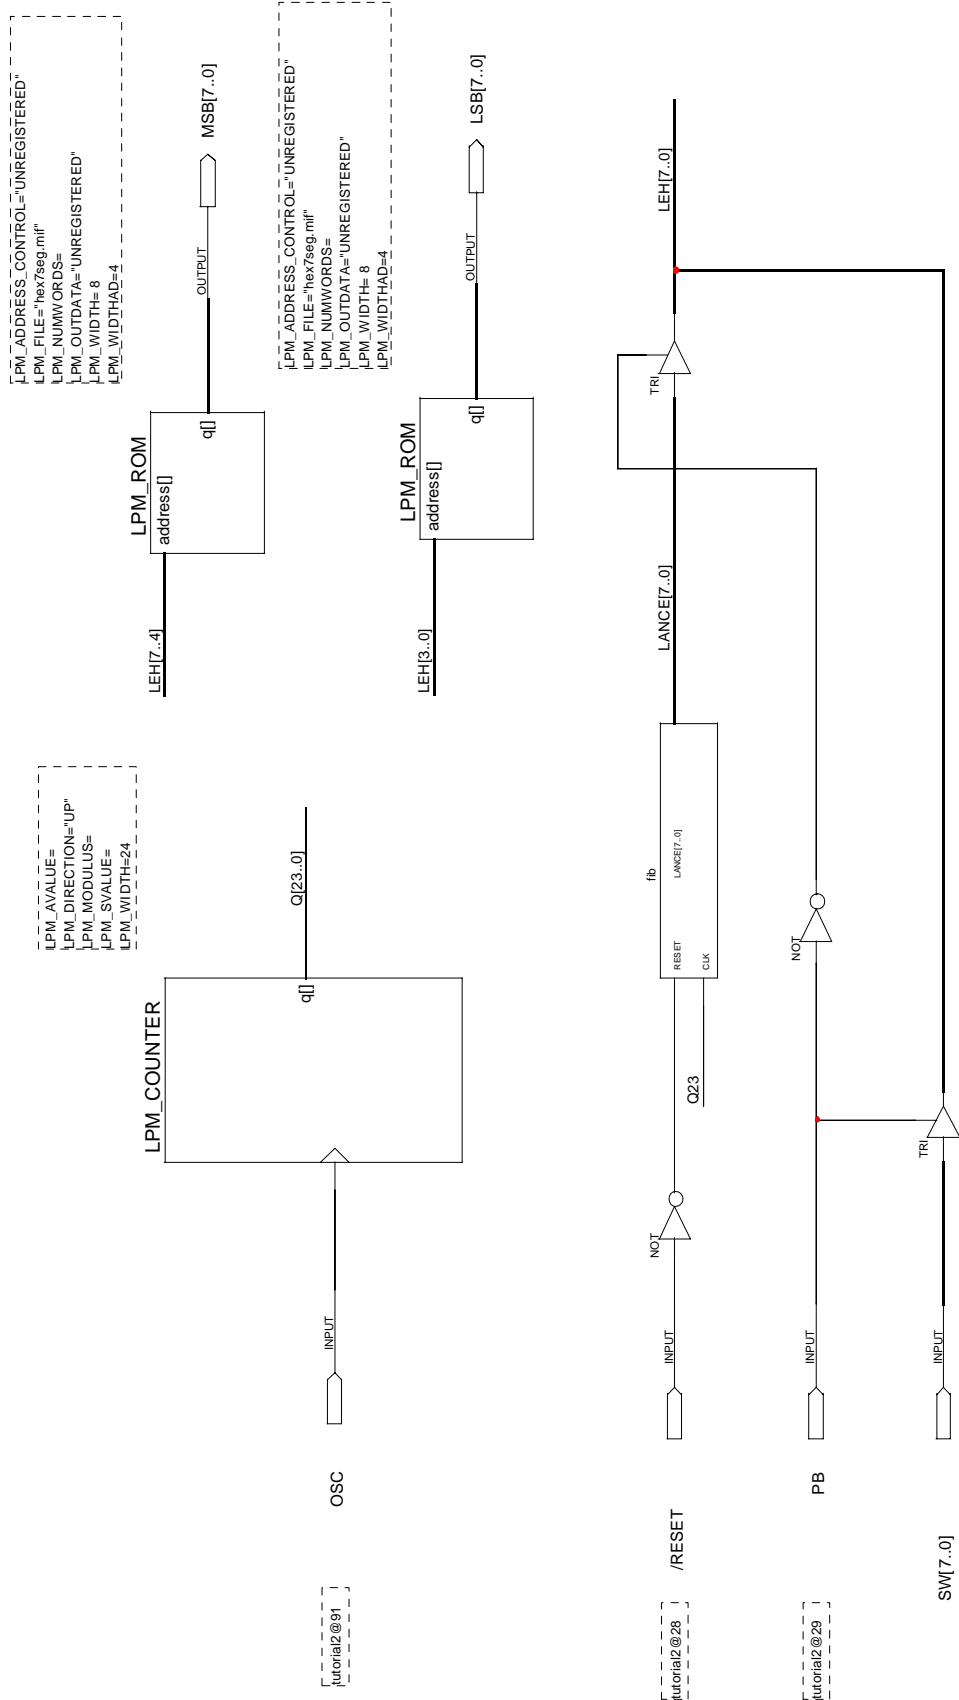

FIGURE 3 - TUTORIAL2 TOP-LEVEL CIRCUIT
- Select **tri** from the primitive library. Although this primitive represents a single tri-state buffer, it can be connected to a bus and the Altera compiler will automatically generate a "primitive array" of the same width as the bus. Place a tri buffer at the output of the Fibonacci subcircuit and another connected to an **input** primitive, as shown in Figure 3.
- Add the remaining components and connect the circuit as shown in Figure 3. Select **Line Style** (Options menu) to draw a bus between the input switches, SW[7..0], and the tri component.